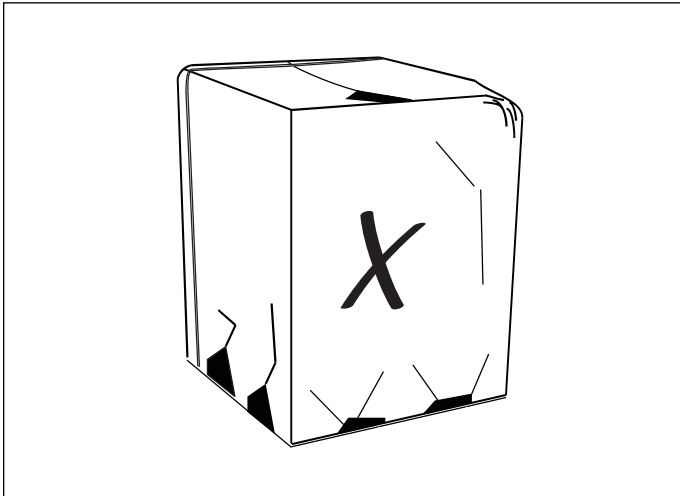

Figure 6
- ▶ STEP 1 - Check for damage and report promptly to the carrier any damage found to the unit (Fig. 6).